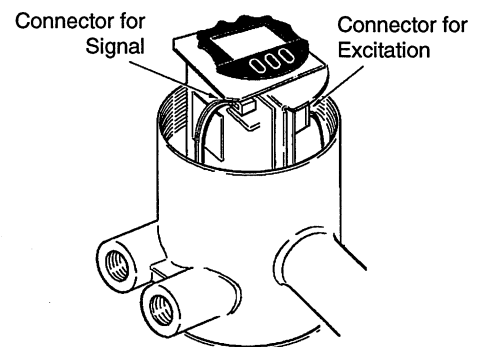

Figure 4.3.2 Connector Position
- (4) Draw out the amplifier forwards a little, and disengage the connectors for signal line and excitation cable as shown in Figure 4.3.2.
- (5) Place the removed amplifier on an insulating pad.